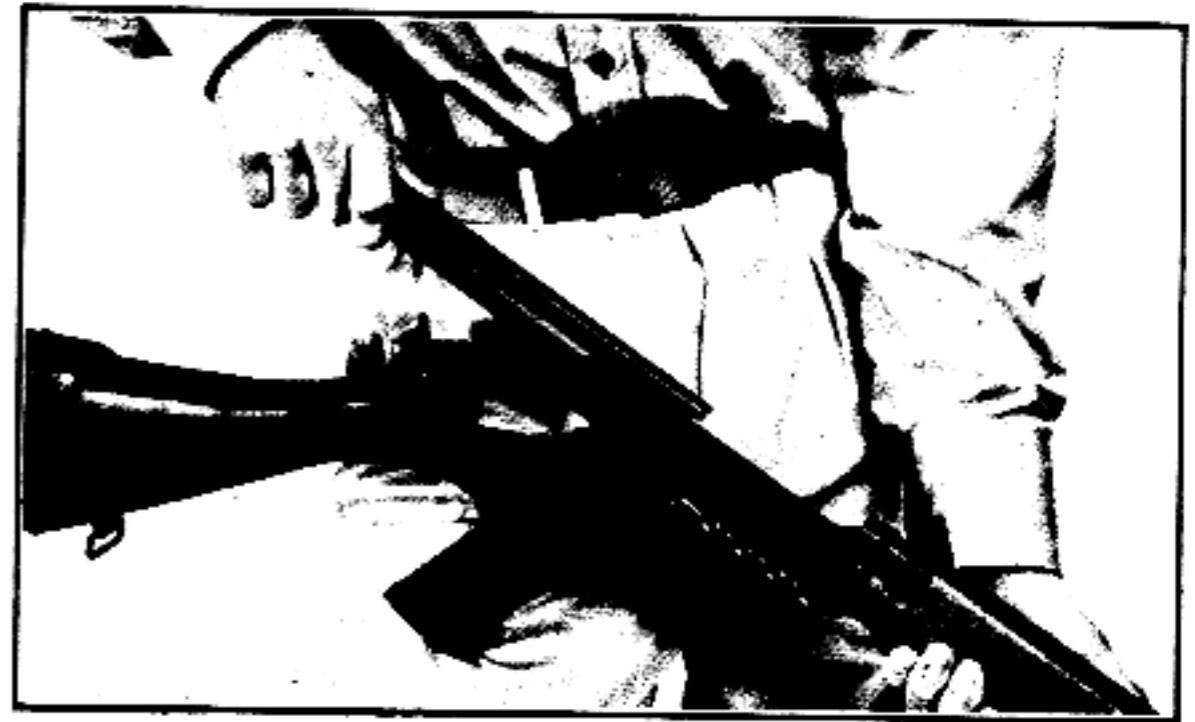

Fig. 18
Slide the receiver cover to the rear (fig. 18).
- Insert the ribs of the cover in the corresponding grooves in the receiver (fig. 18) and slide the cover fully forward.